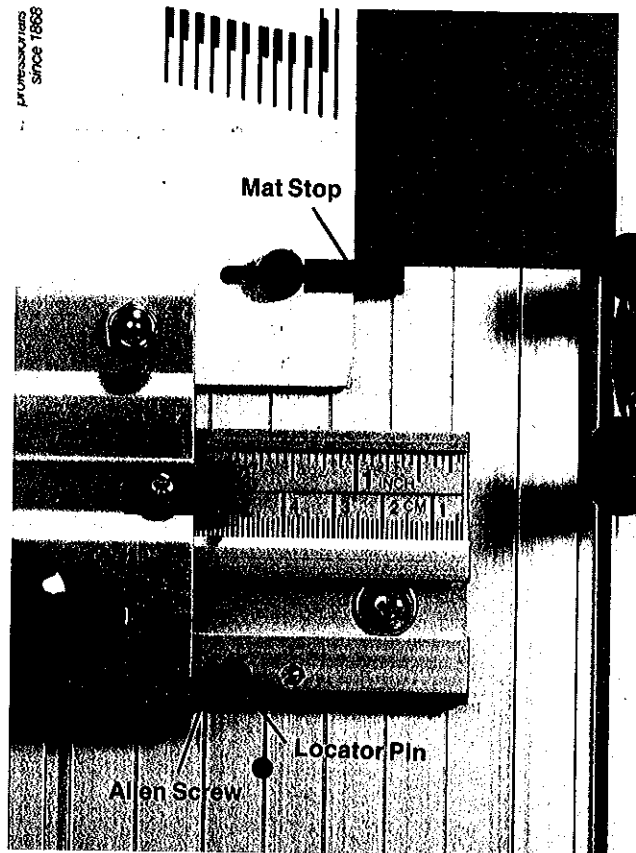

Figure 8.
2. Repeat step 1, if necessary until the border is exactly 2". (See Fig. 8).